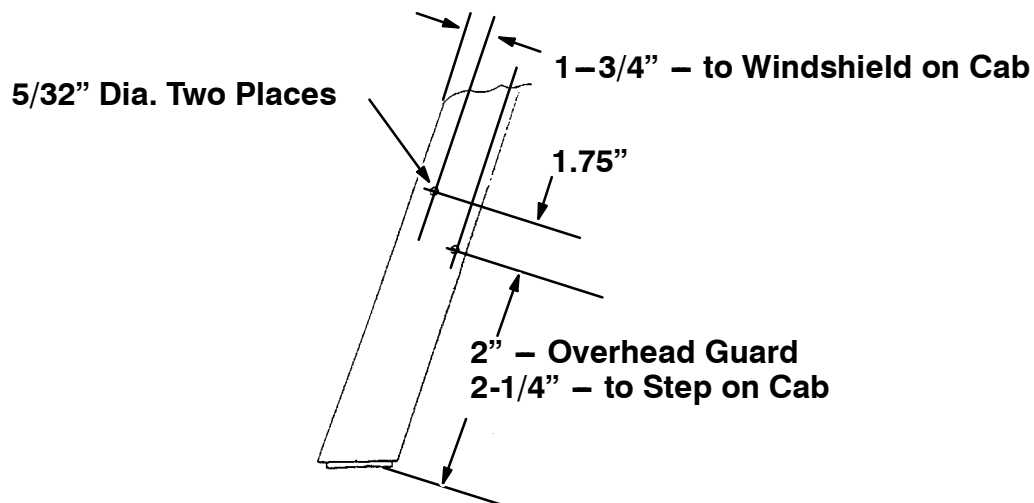
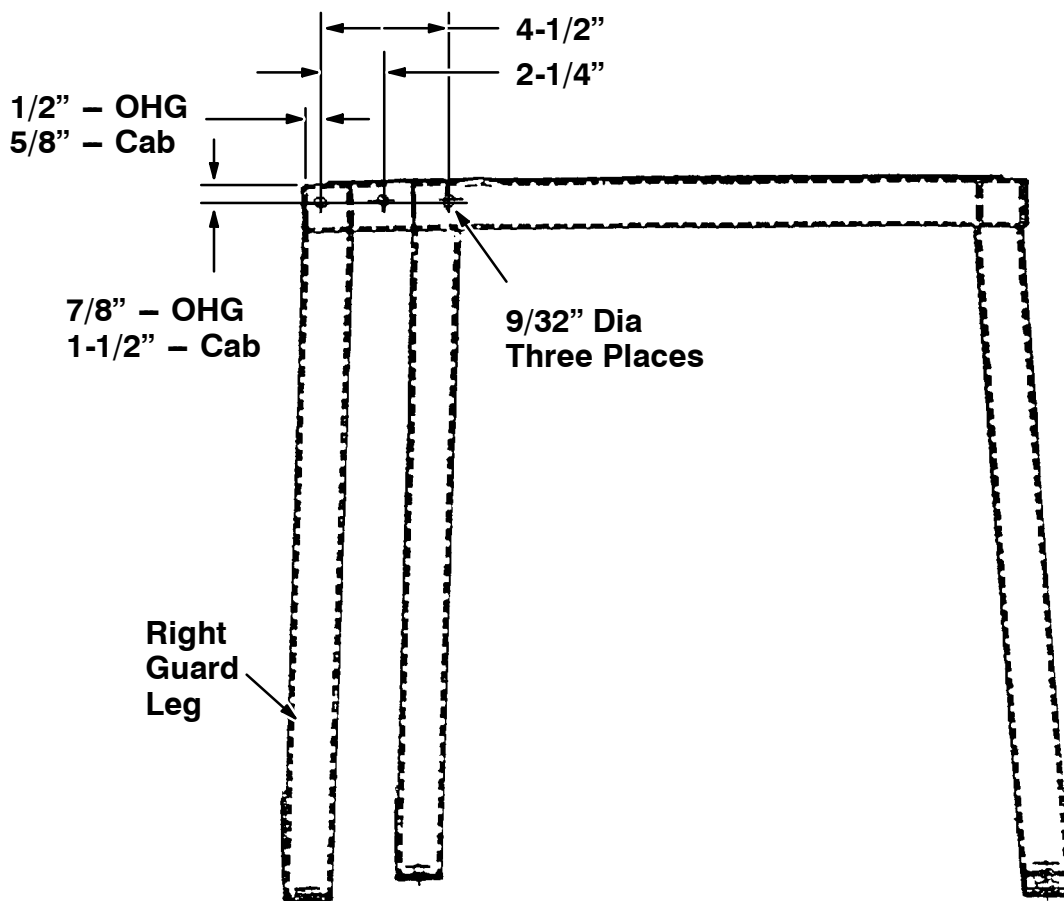

FIG. 1 – Hole Locations in Lower Right Guard Leg
FIG. 2 – Hole Locations in Cab and Overhead Guard Frame
2. Drill two 5/32" holes in lower right side of cab or overhead guard. Refer to FIG. 1 for locations.
3. Drill three 9/32" holes in upper right front of cab or overhead guard. Refer to FIG. 2 for locations.
NOTE: FOR OVERHEAD GUARD: Install bracket in lower three holes. **FOR CAB:** Install bracket in top three holes. Refer to Fig. 1 and Fig. 2.